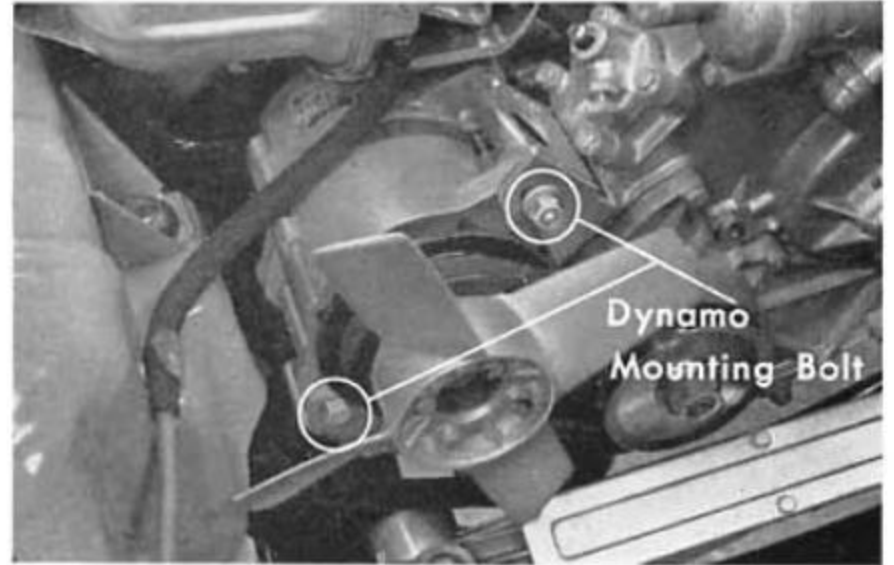

Fig. 19B-1
4. Remove the nut, washer and special mounting bolt from the upper mounting bracket (Fig. 19B-1).
5. Remove the bolt and washer from the lower mounting and remove the A.C. dynamo from the engine (Fig. 19B-1).
1. Remove the bolts and washers attaching the cooling fan to the A.C. dynamo and disassemble the fan (Fig. 19B-2).